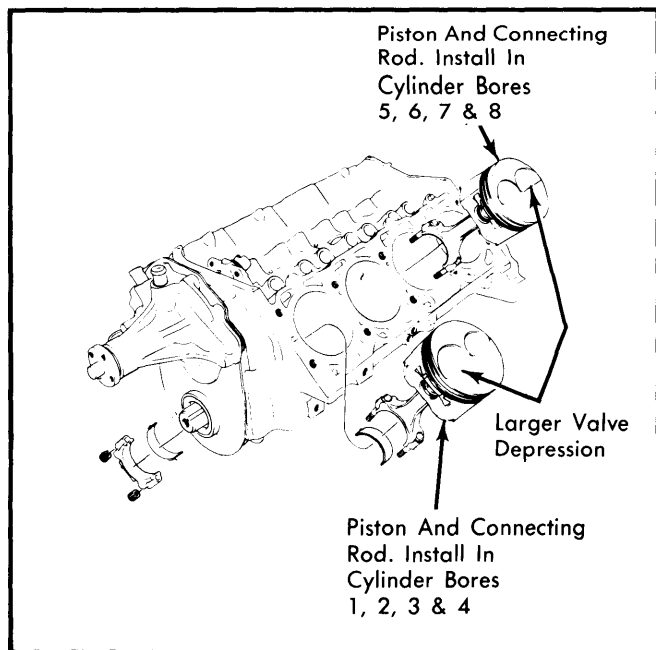

Fig. 8 Piston Location
2) On cylinders 1,2,3 & 4, the larger valve depression goes toward the front of engine. Cylinders 5,6,7 & 8, the larger depression goes toward rear of engine. See Fig. 8.